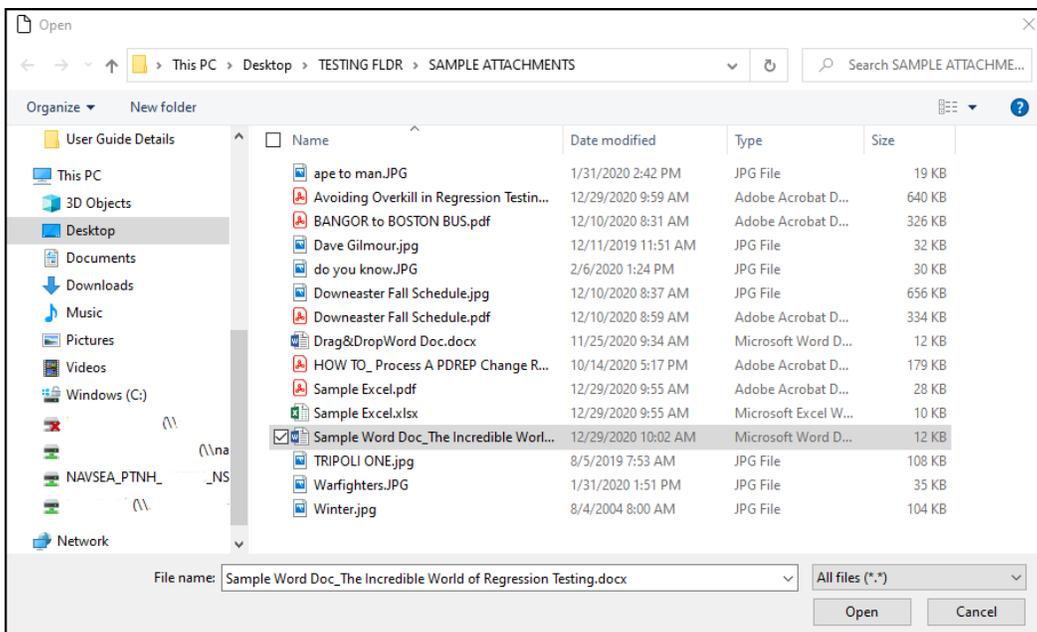

Figure 2.5
- A. You have the opportunity to select a file using your browser or by dragging and dropping files from an open file location. Please note that your file manager may differ from what is shown in **Figure 2.5**, and is dependent on your operating system.